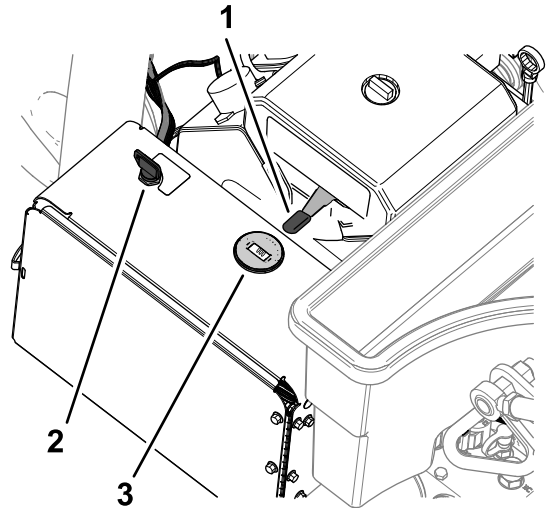

Figure 71
2. Move the throttle lever (Figure 71) to the SLOW position.